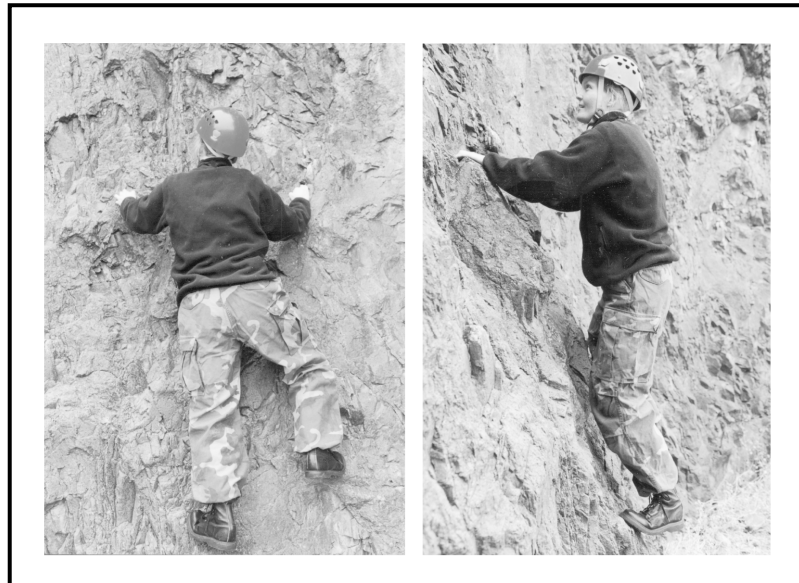
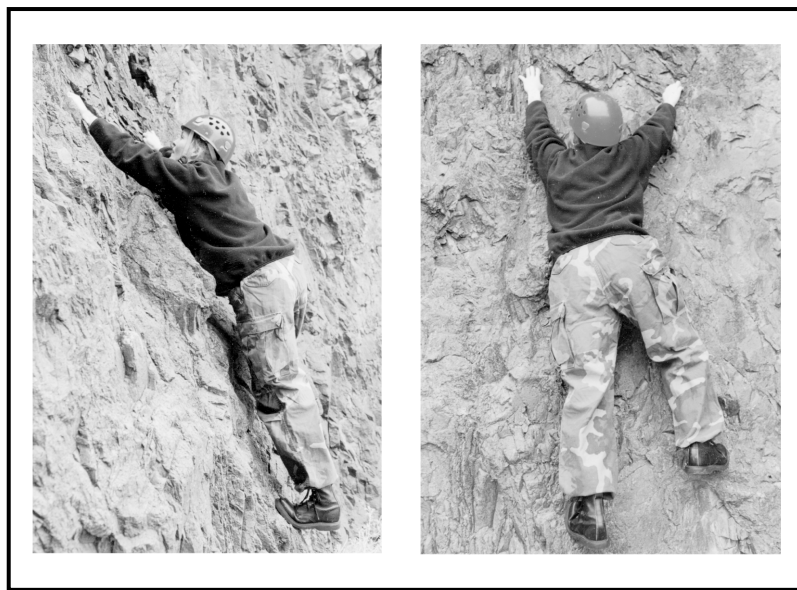

Figure 6-1. Correct climbing stance—balanced over both feet.
Figure 6-2. Incorrect stance—stretched out.
b. **Stance or Body Position.** Body position is probably the single most important element to good technique. A relaxed, comfortable stance is essential. (Figure 6-1 shows a correct climbing stance, and Figure 6-2, page 6-4, shows an incorrect stance.) The body should be in a near vertical or erect stance with the weight centered over the feet. Leaning in towards the rock will cause the feet to push outward, away from the rock, resulting in a loss of friction between the boot sole and rock surface. The legs are straight and the heels are kept low to reduce fatigue. Bent legs and tense muscles tire quickly. If strained for too long, tense muscles may vibrate uncontrollably. This vibration, known as “Elvis-ing” or “sewing-machine leg” can be cured by straightening the leg, lowering the heel, or moving on to a more restful position. The hands are used to maintain balance. Keeping the hands between waist and shoulder level will reduce arm fatigue.